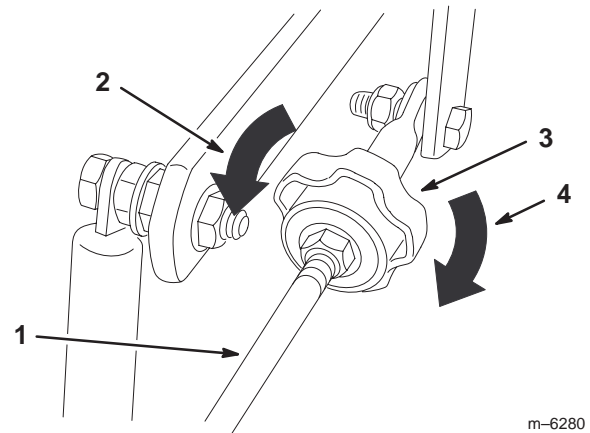

Figure 50
4. To make the machine go right, turn the knob towards the rightside of the machine. Refer to figure 50.
5. To make the machine go left, turn the knob towards the leftside of the machine. Refer to figure 50.